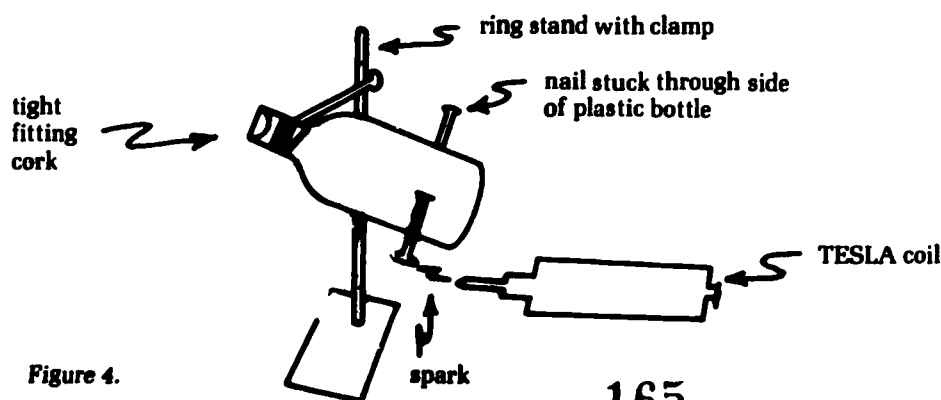

Figure 4.
1. Prepare the "cannon" by inserting two large nails into the sides of a heavy plastic bottle. Shampoo or juice bottles work well. The points of the nails should be separated by about $\frac{1}{4}$ in. to provide a gap. (See Figure 4.)